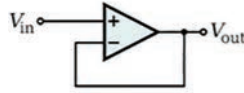

Figure 9.43 Ch 9: No. 11, self-test
11. Determine the output voltage, and input and output impedance for the circuit shown in Figure 9.43, if V_{in} is 30 mV, A_{OL} is 120,000, Z_{in} is 1.2 M Ω , and Z_{out} is 30 Ω .